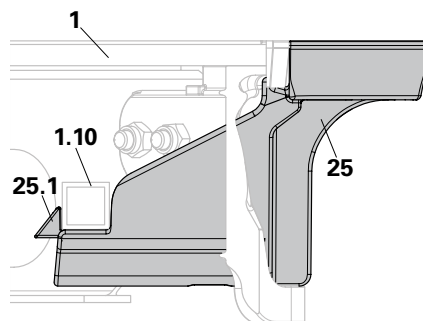

Fig. A2.19
2. Ensure that the triangular clip (**25.1**) is locked on the square-tube (**1.10**) of the panel (**1**). (Fig. A2.19)